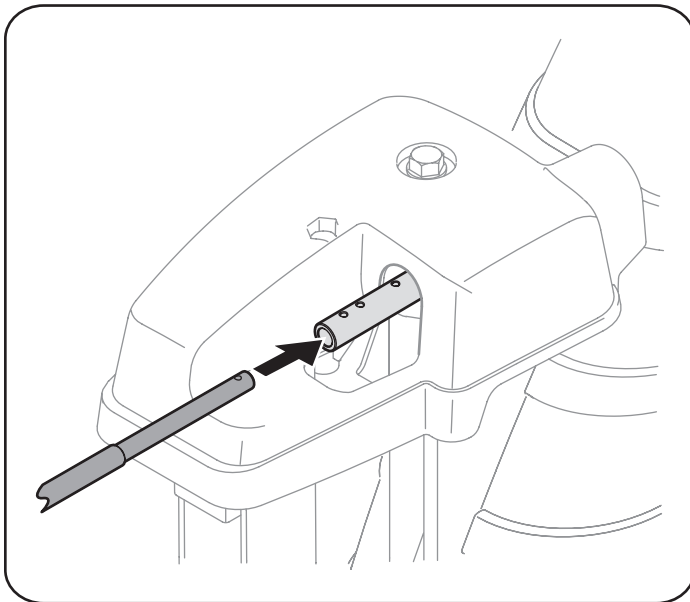

Figure 4
3. Insert the round end of the chute control rod into input of chute control head. Push rod as far into the chute control head as possible, keeping the holes in the rod pointing upward. See Figure 4.